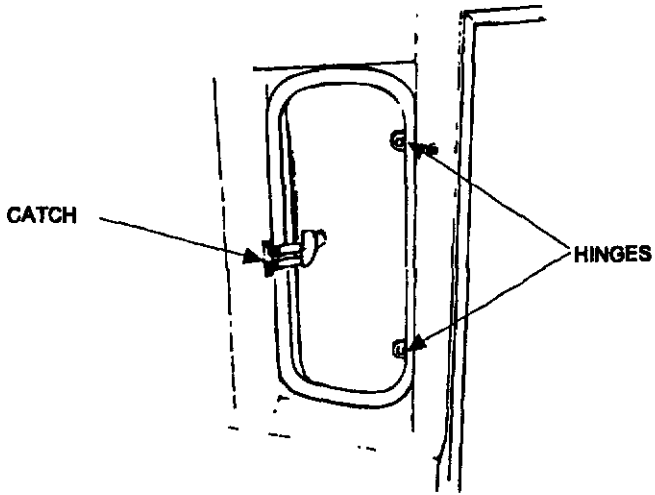

Figure 1-17 Cab RH Rear Window
**98. Rear Side Windows (Fig. 1-17)**